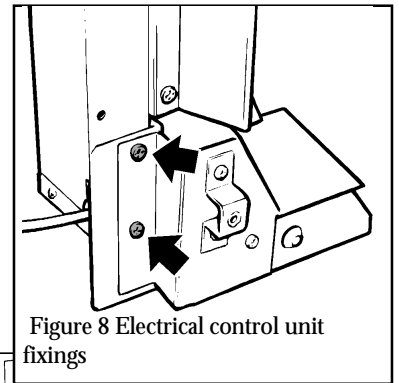

Figure 8 Electrical control unit fixings
2. Detach the control unit from the convection box left side flange by removing two screws (see figure 8). Carefully pull the unit slightly forward.